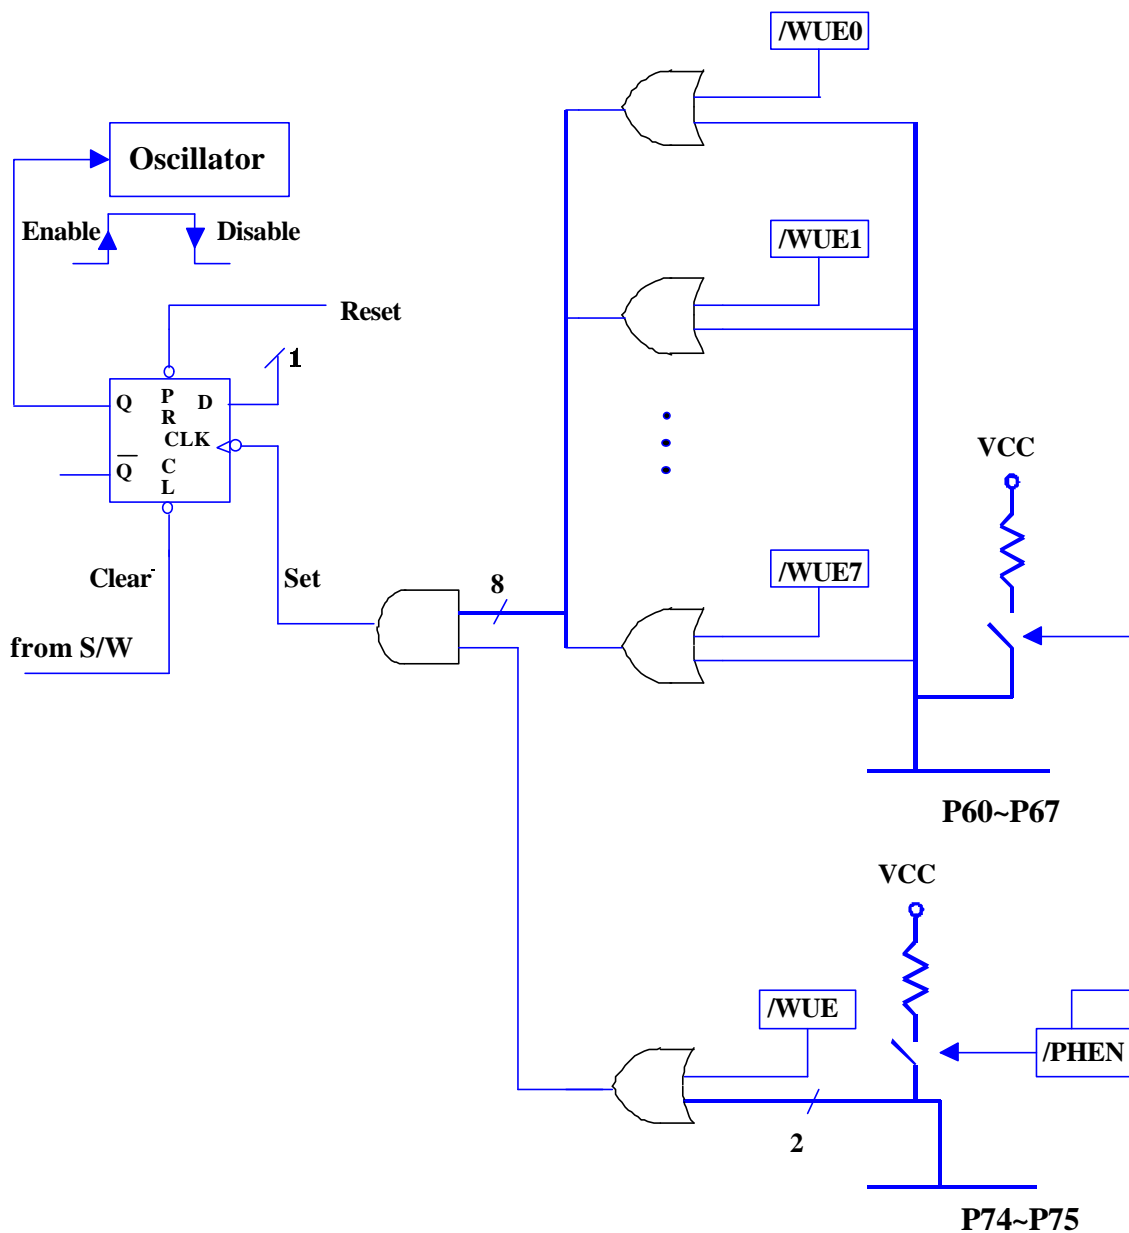

Fig. 5 Sleep Mode and Wake-Up Circuits on I/O Ports Block Diagram
- **Bit 4 (SLPC)** This bit is set by hardware at the falling edge of wake-up signal and is cleared by software. SLPC is used to control the oscillator operation. The oscillator is disabled (oscillator is stopped, and the controller enters into SLEEP2 mode) on the high-to-low transition and is enabled (controller is awakened from SLEEP2 mode) on low-to-high transition. In order to ensure the stable output of the oscillator, once the oscillator is enabled again, there is a delay for approximately 18 ms (oscillator start-up timer, OST) before the next instruction of the program is executed. The OST is always activated by a wake-up event from sleep mode regardless of the Code Option bit ENWDT status is "0" or otherwise. After waking up, the WDT is enabled if the Code Option ENWDT is "1". The block diagram of SLEEP2 mode and wake-up invoked by an input trigger is depicted in Fig. 5. The SLPC bit can be read and written.
- (A) Any of the wake-up pins is “0” as illustrated in Figure. 5. Upon waking, the controller will continue to execute the succeeding address. Under this case, before entering SLEEP2 MODE, the wake-up function of the trigger sources (P60~P67 and P74~P75) should be selected (e.g., input pin) and enabled (e.g., pull-high, wake-up control). It should be noted that after waking up, the WDT is enabled if the Code Option bit ENWDT is “0”. The WDT operation (to be enabled or disabled) should be appropriately controlled by software after waking up.
- (B) WDT time-out (if enabled) or external reset input on /RESET pin will trigger a controller reset.